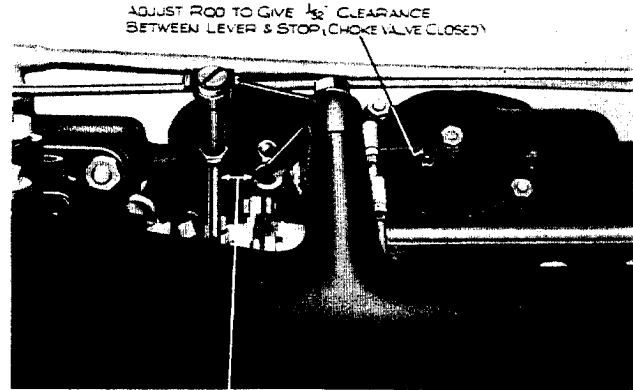

FIG. 8. ADJUSTMENT OF THERMOSTAT LEVER.
3. Fit and adjust RE.13211 rod, with the choke valve fully closed to give .031" clearance between the thermostat lever and stop. See Fig. 8.
Fit and adjust RE.13212 rod, choke valve to fast idle pick-up, as shown in Fig.8.